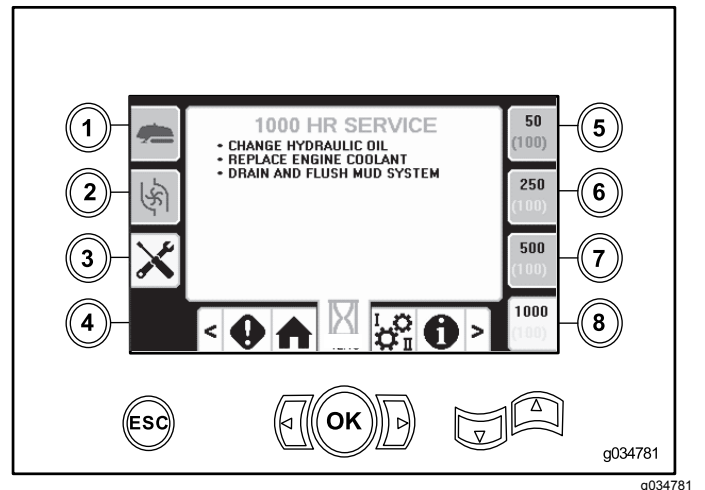

Figure 54
- Button 8—1,000-hour (Figure 54)